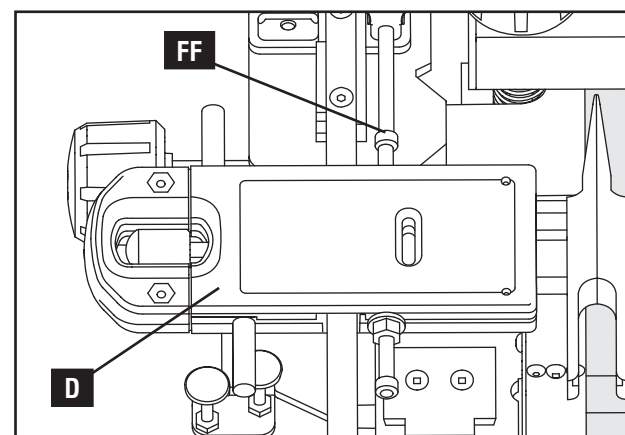

Fig. E18
**NOTE:** Be sure to replace the template (D) Fig. E18 firmly against new stop positions before making the router cut.